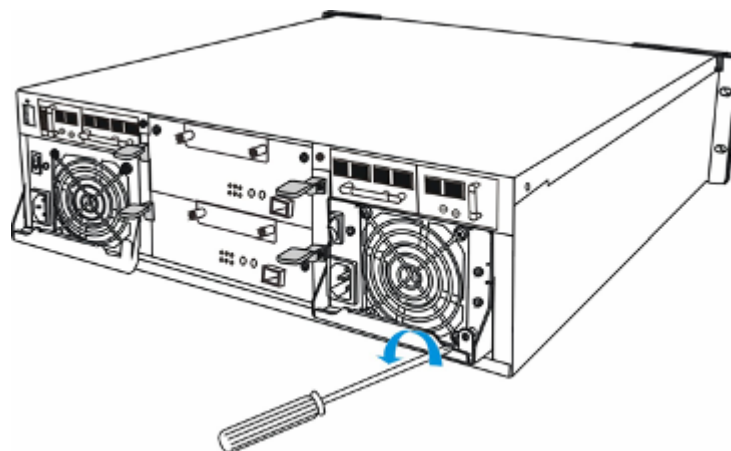

Figure 5-16: Removing the PSU Retention Screw
- Step 3. Remove the PSU retention screw** that secures the extraction handle to the chassis. (See *Figure 5-16*)